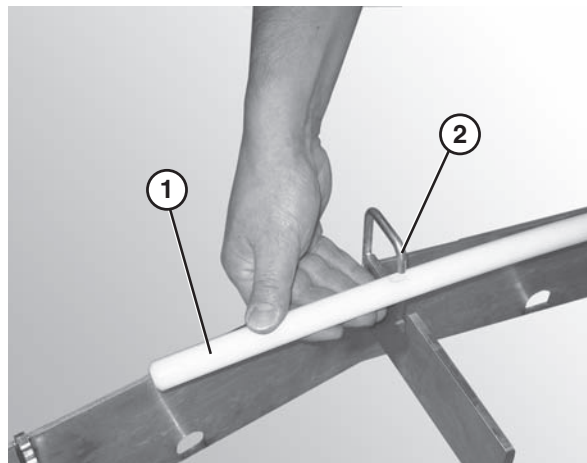

Figure 34
2. Attach the hold down wear strip (Figure 34, item 1) to the frame hooks (Figure 34, item 2) on the outside of the frame.